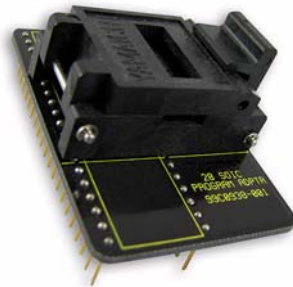

Figure 6. 28-Pin SOIC Programming Adapter
1. Install the device into the 28-pin SOIC programming adapter (shown in Figure 6).